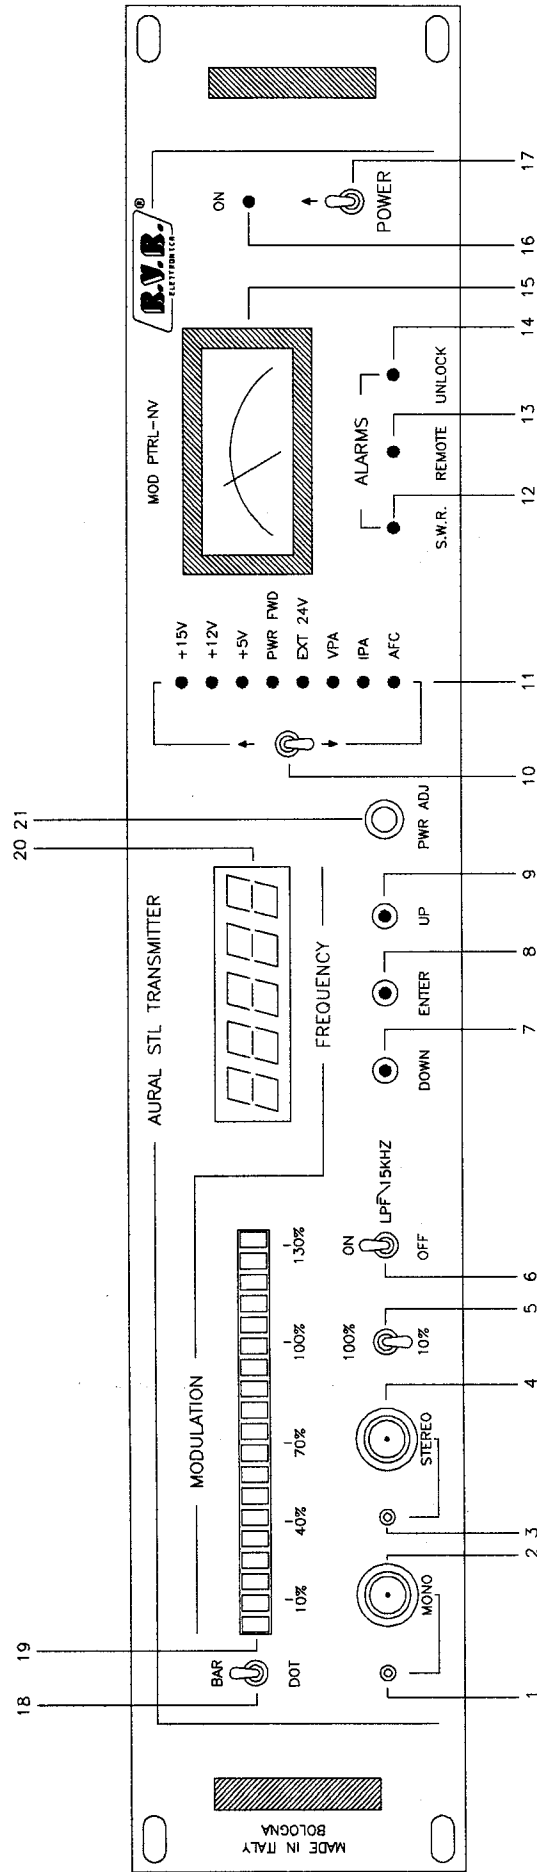

FIG. 1
FRONT PANEL VIEW DESCRIPTION (Fig.1)
- 4) Switch the power switch (17 Fig.1) to the OFF position.
- 6) Switch the power switch to the ON position and check that the green POWER ON led (16 Fig.1), the red UNLOCK led (14 Fig.1) and the led corresponding to the parameter selection PWR/FWD (11 Fig.1), are all lit.
After a few seconds the central display (20 Fig.1) will come on and display a number (eg. 1790.0) corresponding to the last operating frequency to have been programmed. The red UNLOCK led should switch off within 30 seconds indicating that the oscillator has locked to the operating frequency displayed. The display has five digits, 4 before the decimal point representing (from left to right) thousands of MHz, hundreds of MHz, tens of MHz and MHz; and 1 after the decimal point representing hundreds of KHz. To change this number, use the UP (9 Fig.1) and DOWN (7 Fig.1) buttons to respectively increase it and decrease it. Once the desired frequency has been found, press ENTER button (8 Fig.1) to confirm and save it.